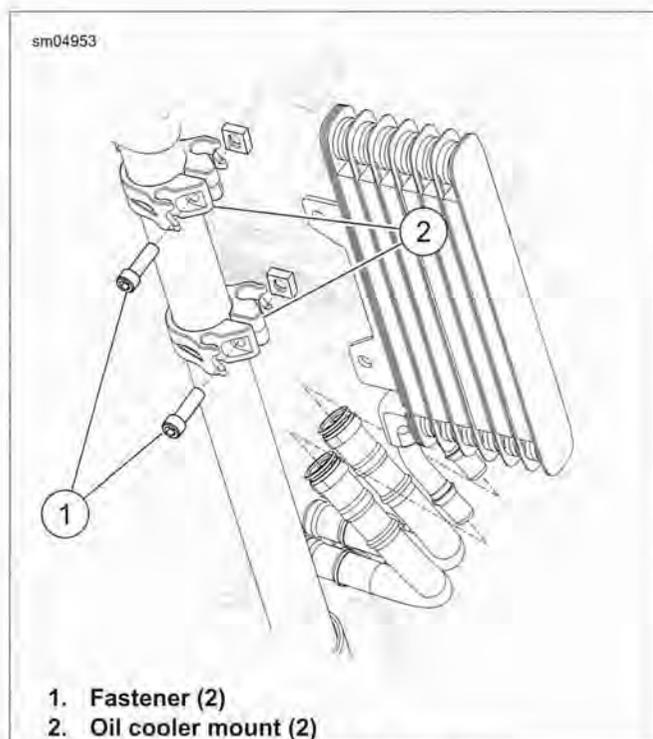

Figure 3-38. Oil Cooler Mounts
4. See Figure 3-38. Remove fasteners (1) securing oil cooler to frame brackets.
3. See Figure 3-38. Secure oil cooler to frame brackets. Tighten fasteners (1) to 36-60 **in-lbs** (4.1-6.8 Nm).